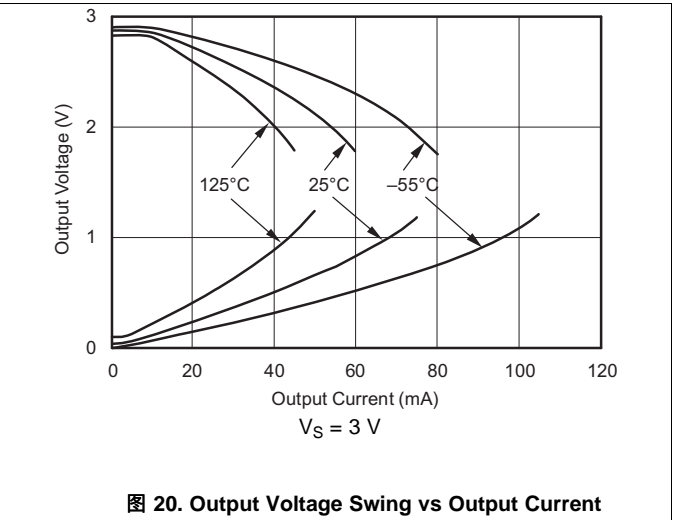
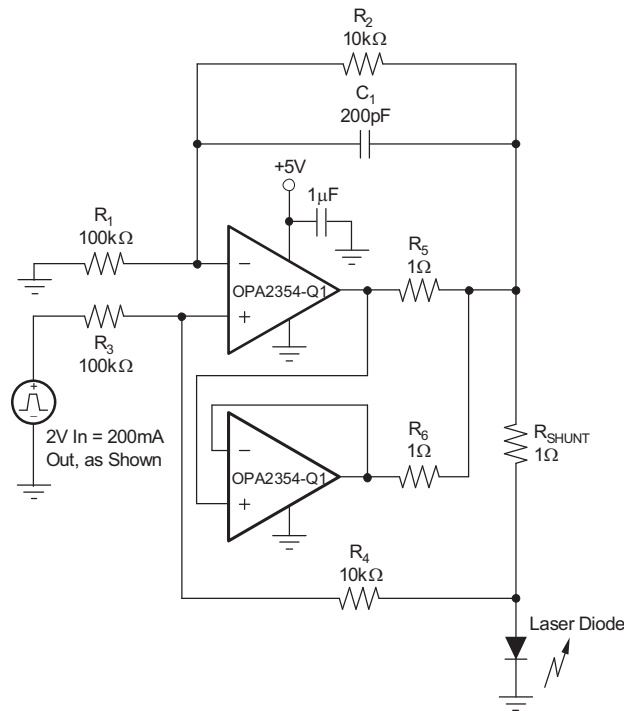

图 20. Output Voltage Swing vs Output Current
图 31. Parallel Operation
(1) See typical characteristic graph *Output Voltage Swing vs Output Current* (图 20).
(2) Not production tested
The device uses a class-AB output stage with common-source transistors to achieve rail-to-rail output. For high-impedance loads ( $> 200\ \Omega$ ), the output voltage swing is typically 100 mV from the supply rails. With 10- $\Omega$  loads, a user can achieve a useful output swing while maintaining high open-loop gain; see 图 20 (*Output Voltage Swing vs Output Current*).
For maximum reliability, TI does not recommend running a continuous DC current greater than  $\pm 100\text{ mA}$ ; see 图 20 (*Output Voltage Swing vs Output Current*). Operate the OPAx354-Q1 family of devices in parallel to supply continuous output currents greater than  $\pm 100\text{ mA}$ , as shown in 图 31.